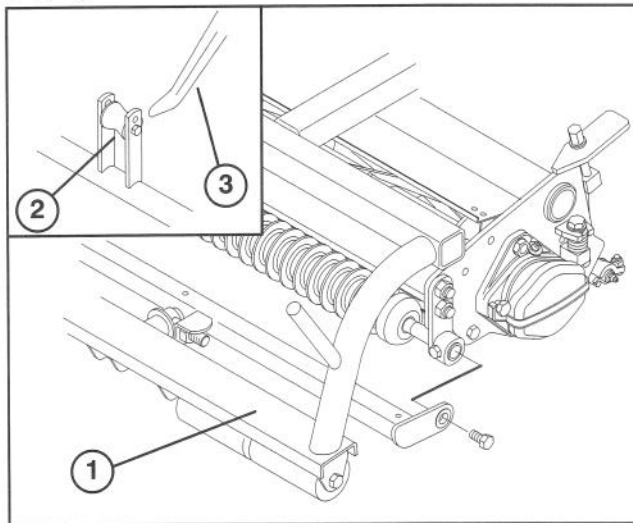

Figure 7
2. Slide the cutting unit under the pull frame while hooking the lift roller onto lift arm (Fig. 7).
3. Mount traction unit pull frame to cutting unit with (2) shoulder bolts.